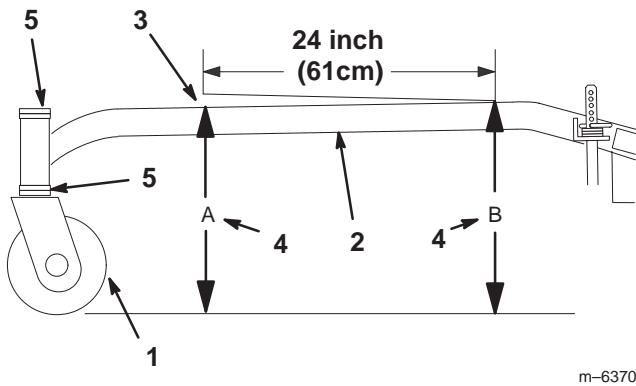

Figure 56
The carrier frame must have a pitch of a 1/4 inch (6 mm) over the length of 24 inches (61 cm) on the carrier frame (Fig. 56).
1. Measure out 24 inches (61cm) on the carrier frame (Fig. 56).
2. Measure carrier frame height at location **A** (Fig. 56).
3. Measure carrier frame height at location **B** (Fig. 56).
4. The height at location **A** must be a 1/4–3/8 inch (6 mm–10 mm) lower than location **B** (Fig. 56).
5. If the carrier frame is not correct, move caster spacers to make it a 1/4–3/8 inch (6–10 mm) pitch (Fig. 56). Move spacers from top or bottom to make the correct pitch.